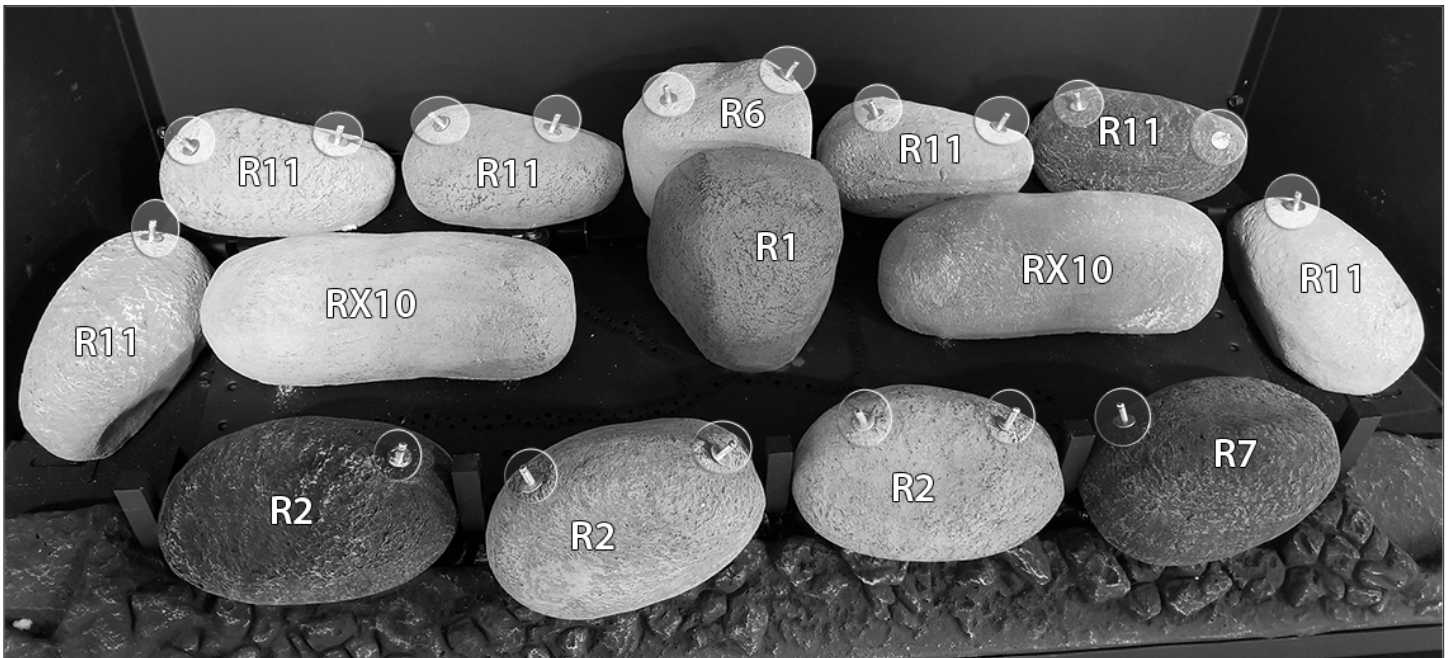

Figure 9.4, Rock Set Installation
1. Optional: Install (3) porcelain panels.
2. Align the holes in on the bottom each RX10 rock with the pins on the burner, as shown in Figure 9.4. Push to seat.